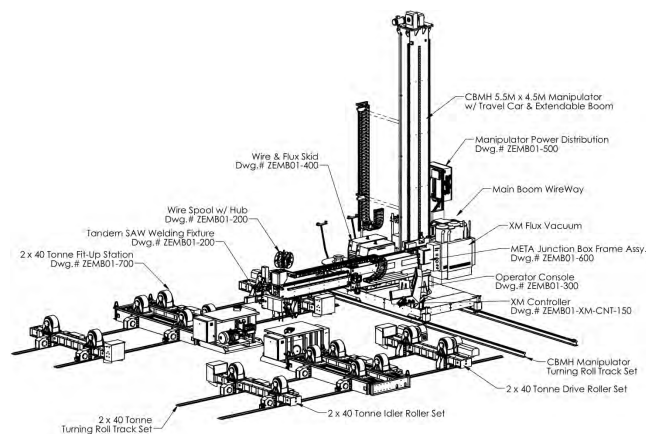

Figure 1.1
The AMET Flange Welding System is an automated tandem Submerged Arc Welding (SAW) station designed to weld longitudinal and circumferential can assemblies both on the inner and outer diameter (Figure 1.1). The system is made up of a telescoping column and boom manipulator mounted on a powered travel cart, which provides mounting and motion of all welding equipment and controls. This special telescoping manipulator has three (3) motions; horizontal telescoping boom travel (7 M), vertical boom travel (5.5 M), and the 20 M Travel Cart. Vertical travel and travel cart motion are commanded from the Manipulator Remote Pendant. Telescoping boom travel is commanded from the XM Controller Joystick. The Can assemblies to be welded are rotated using 60 Tonne driven turning rolls and idlers, and 90 Tonne Fit-Up rollers.